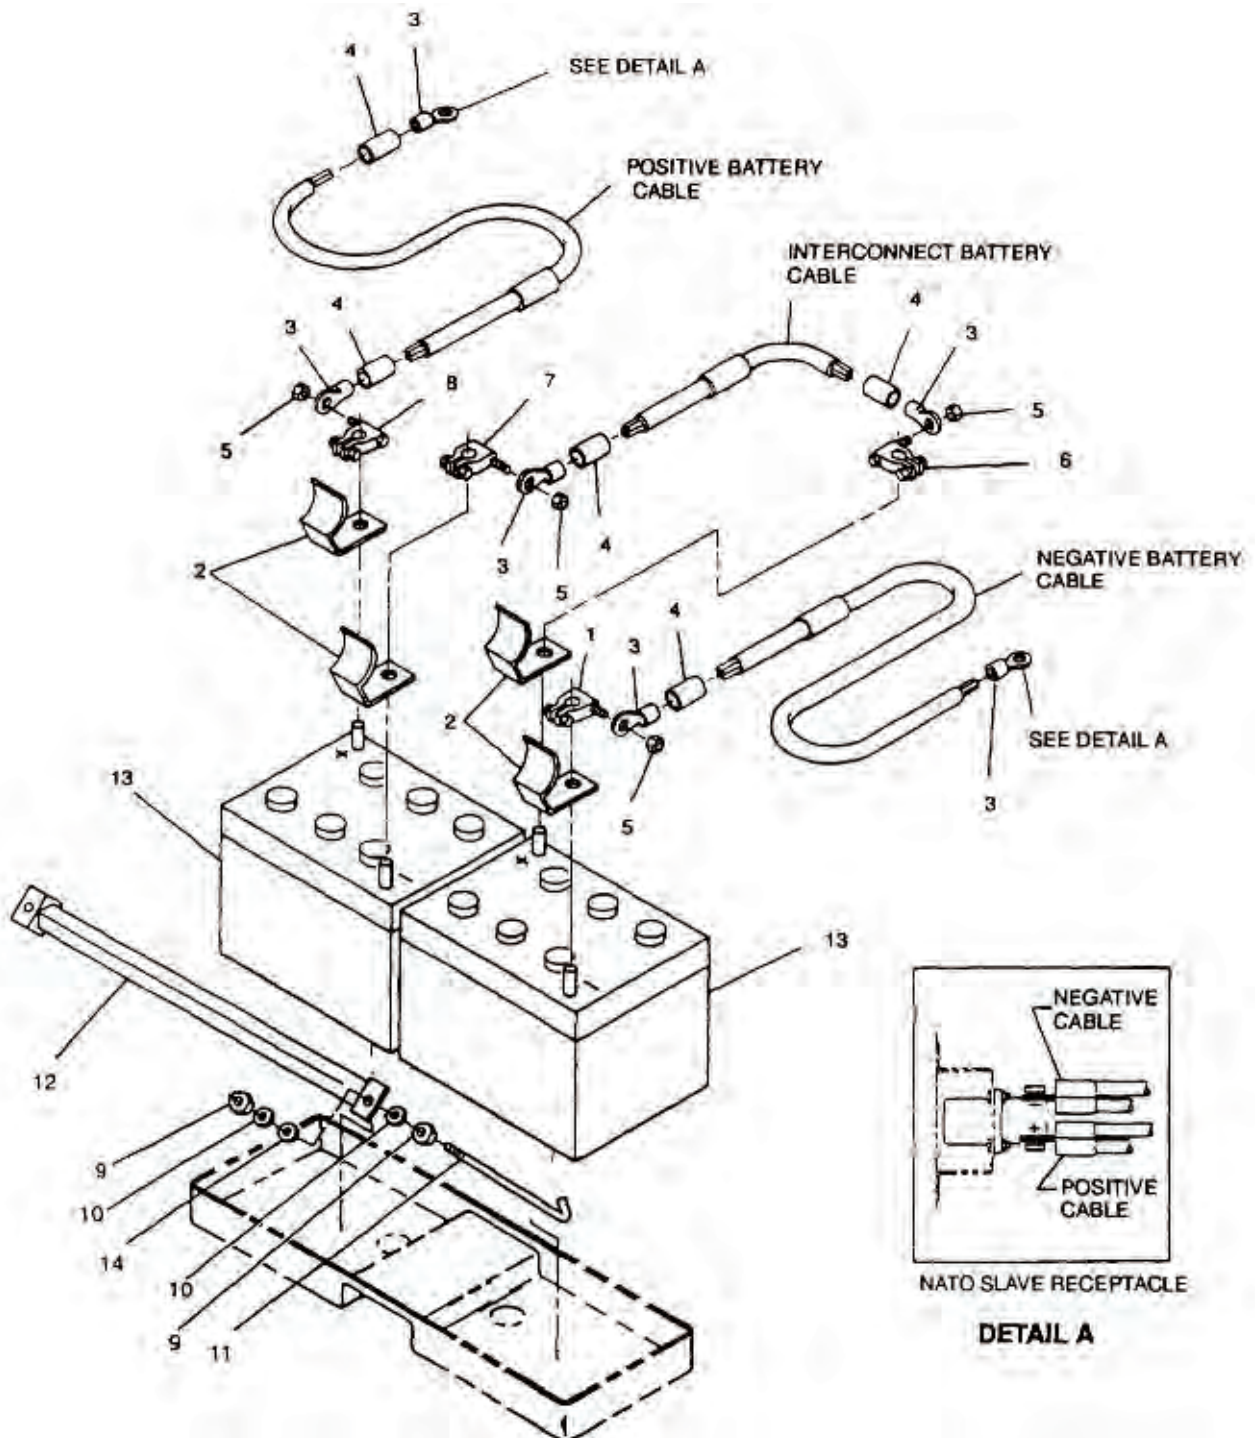

Figure 1. Batteries and Cables.
WP 0013, Figure 1, Items: 3 & 4
3. Disconnect negative battery cable terminal lug (Figure 1, Item 1) from battery.
4. Disconnect and remove applicable cable assembly (Figure 1/WP 0013, Figure 1).
1. Remove terminal cover(s) (Figure 1, Item 2) from battery post(s), if applicable.
3. Install terminal cover(s) (2), if removed.
1. Remove nut(s) (Figure 1, Item 5) and battery cable terminal lug(s), as necessary.
2. Remove broken or damaged terminal (Figure 1, Item 3/WP 0013, Figure 1, Item 3) from cable assembly.
3. Slide new shrinkable tubing (Figure 1, Item 4/WP 0013, Figure 1, Item 4) over cable end.
4. Install terminal (3) to cable end (WP 0129).
5. Heat shrinkable tubing (4) with heat gun until secure.
6. Install battery cable terminal lug(s) with nuts(s) (Figure 1, Item 5), as necessary.
1. Install applicable cable assembly as shown in Figure 1/WP 0013, Figure 1.
2. Connect negative battery cable terminal lug (Figure 1, Item 1) to battery. Close access doors.
WP 0011, Figure 1, Items: 1, 2 & 13